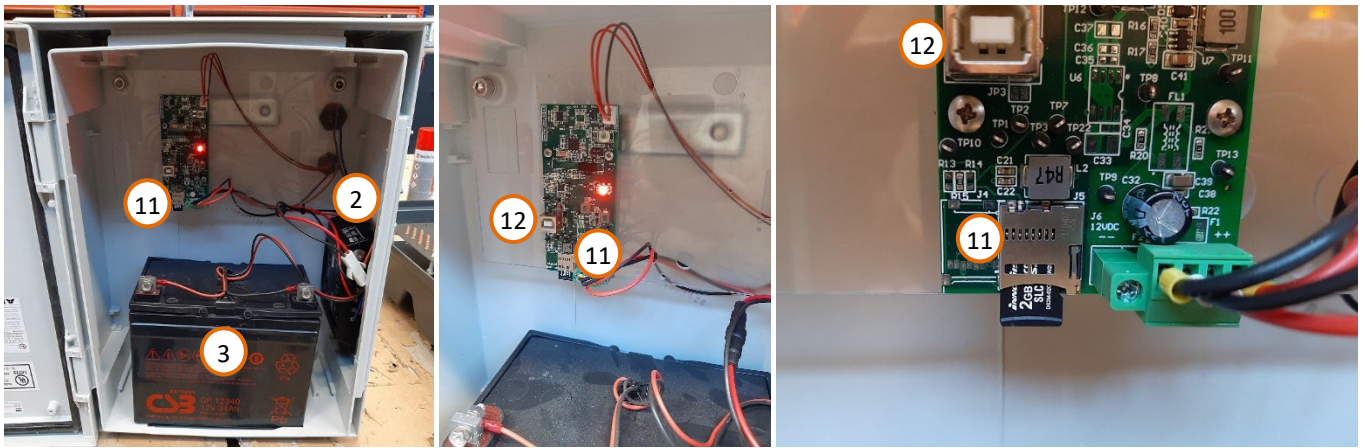

Figure 13: cabinet with SD card reader
1. Install the cabinet at the foot of the pole, under the TMA-3B3. Insert collars with the right diameter in the clamps (10) on the backside of the cabinet.
2. Insert a SIM card in the slot (Figure 10, p. 9, mark 7) or an SD card in the reader (Figure 13, mark 11).
- For the cabinets equipped with an optional SD card reader, the configuration is made through de USB-B connector (Figure 13, item 12).